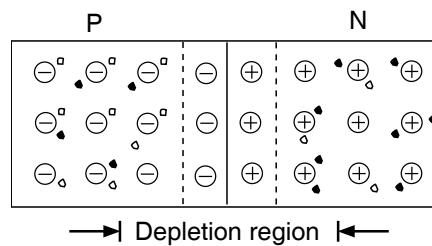

Fig. 1.10: P N Junction
3. Due to few re-combinations near the junction, a region is formed on both sides with no charge carriers. It contains only negative and positive immobile ions. This region is called depletion region or space-charge region Fig.1.10 shows P N junction with depletion region.